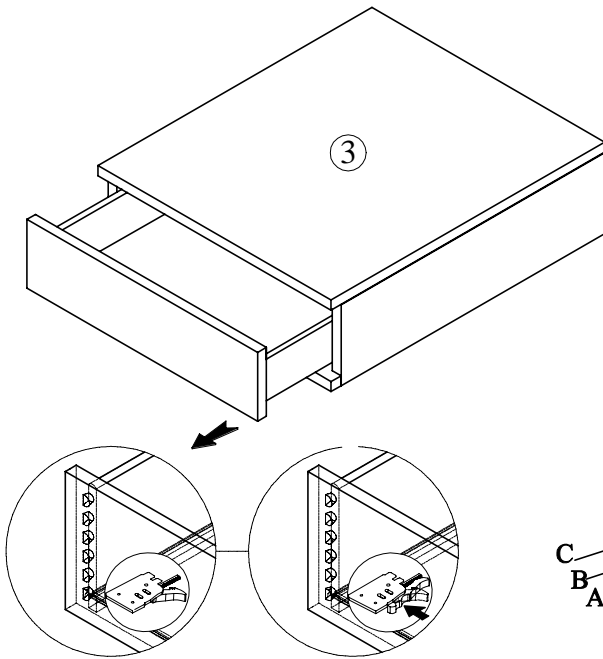

Figure 2
- STEP 2. Press the left side plastic under the drawer to the left and press the right side plastic under the drawer to the right together then pull out the drawer. See Figure 2.